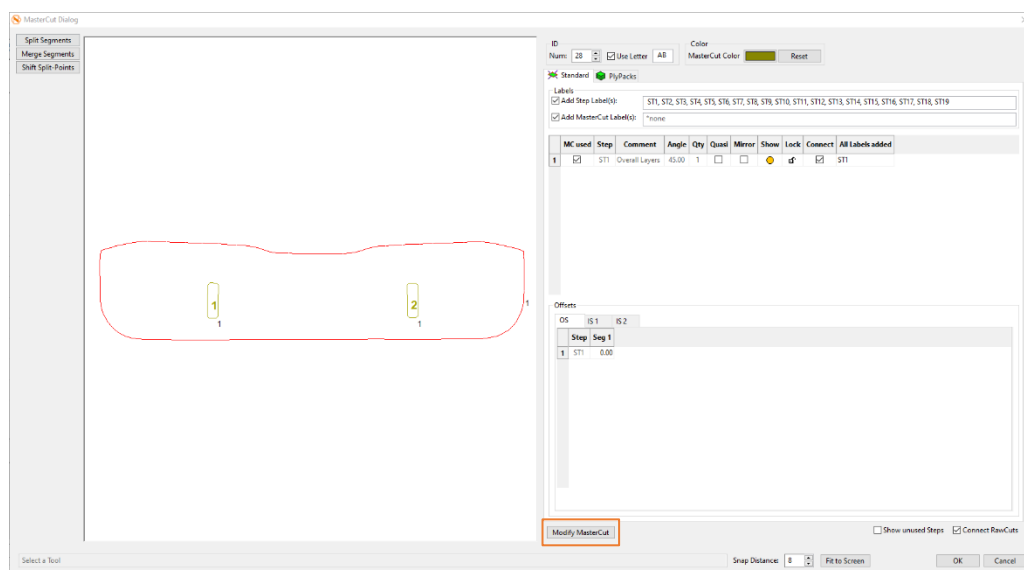

Figure 371
- Further we can also split the RawCut of ST1 into two pieces. Therefore click the **Modify MasterCut** (Figure 371).